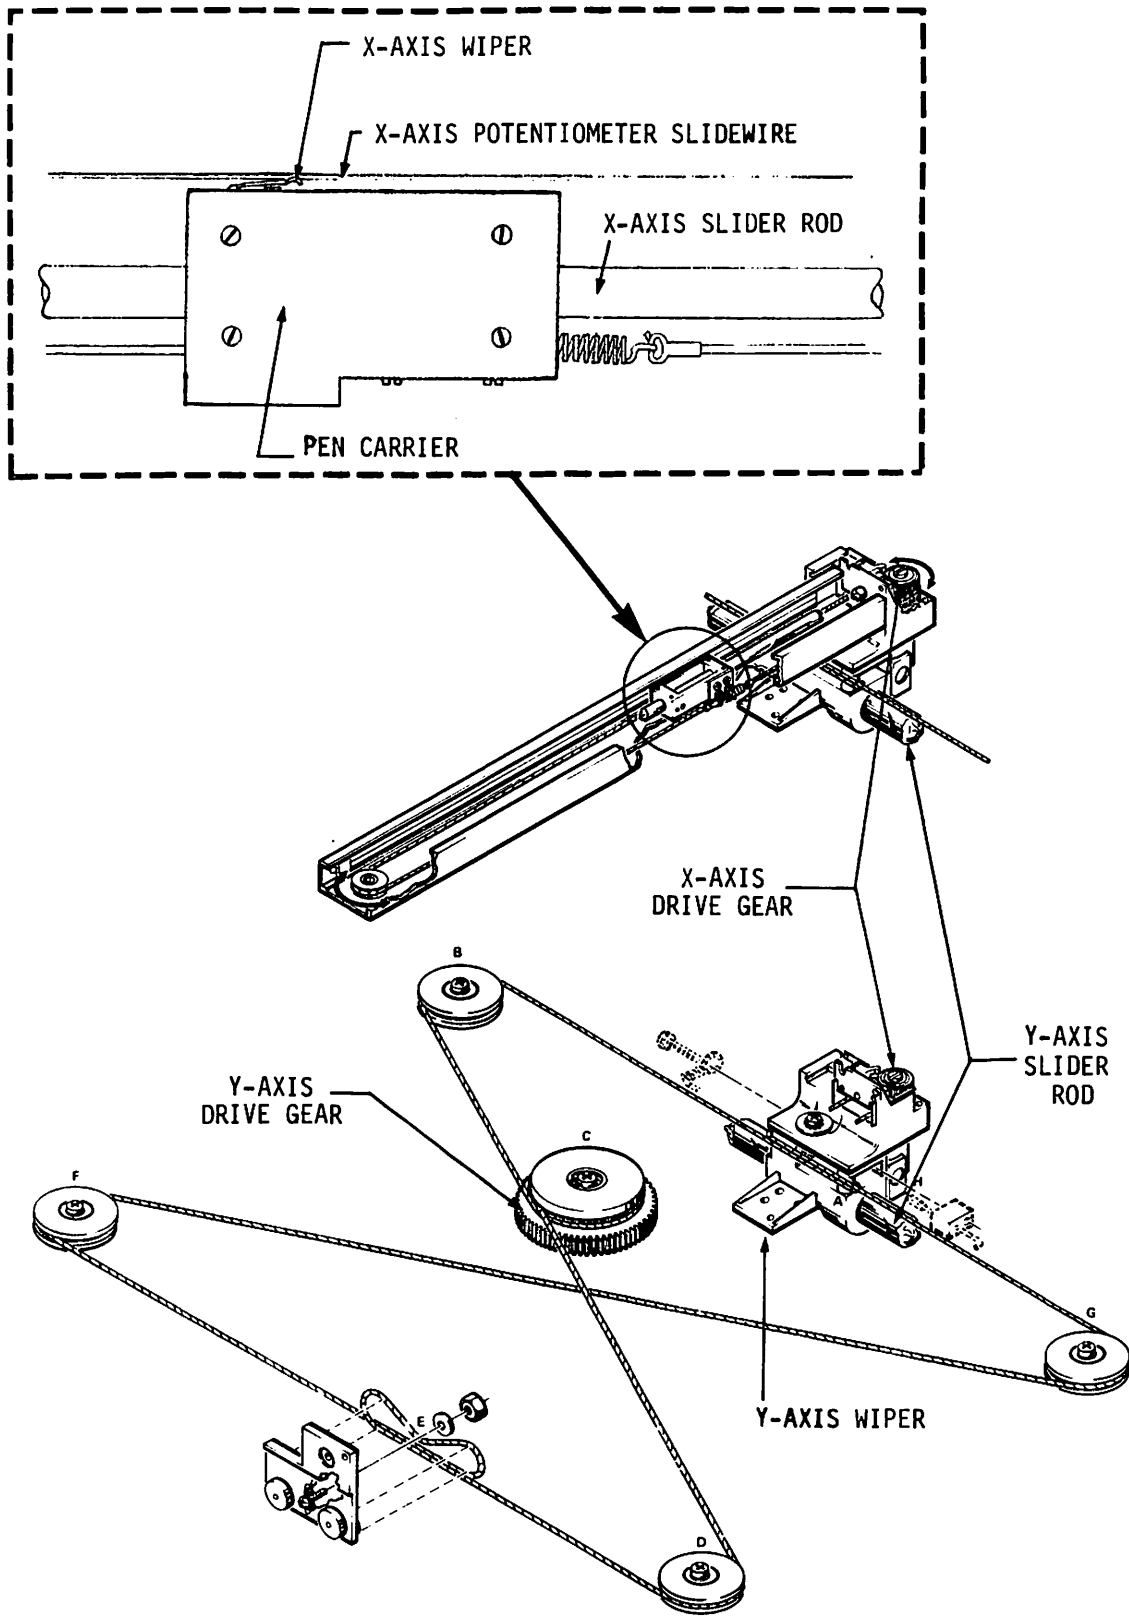

Figure B-5. X- and Y- Axis Drive Mechanisms
1. Clean and lubricate drive gears (Figure B-5) and the wire shield under Y-axis slider rod (Figure B-6) with light grade silicon grease. GE Silicon Verselube #G322-L is the suggested lubricant. It also may be obtained from Hewlett Packard (HP Number 6040-0297).
2. Clean and lubricate Y-axis slider rod with instrument oil. Anderol 795 (by Teneco, Inc.) is suggested. This is also carried by Hewlett Packard (HP #6040-0220). See Figures B-5 and B-6.
3. Clean X-axis slider rod with dry Kimwipe; do not lubricate (see Figure B-5).